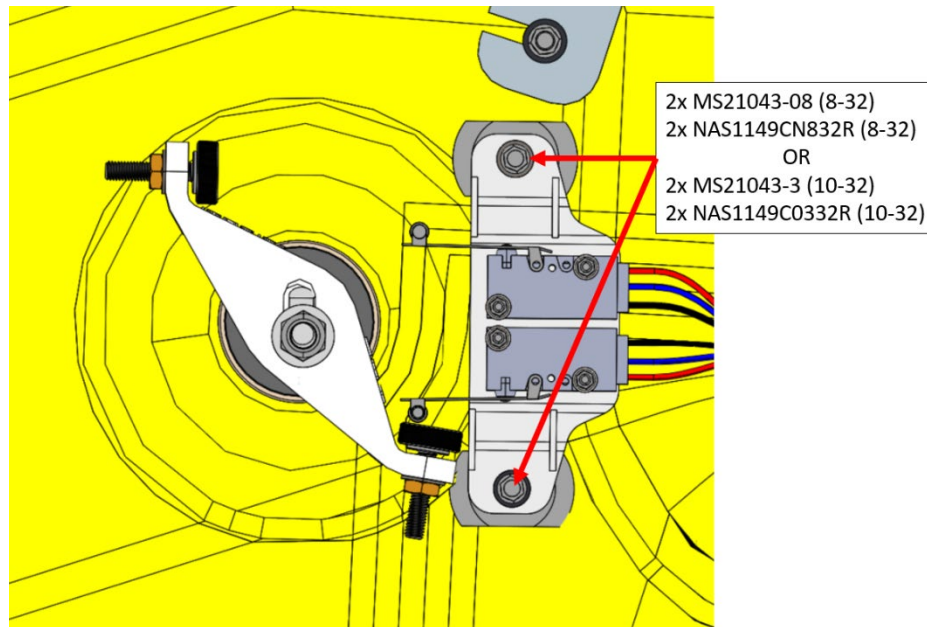

Figure 7 Mechanical Limit Switches
13. If applicable, reinstall limit switch bracket assembly (*Figure 7*):